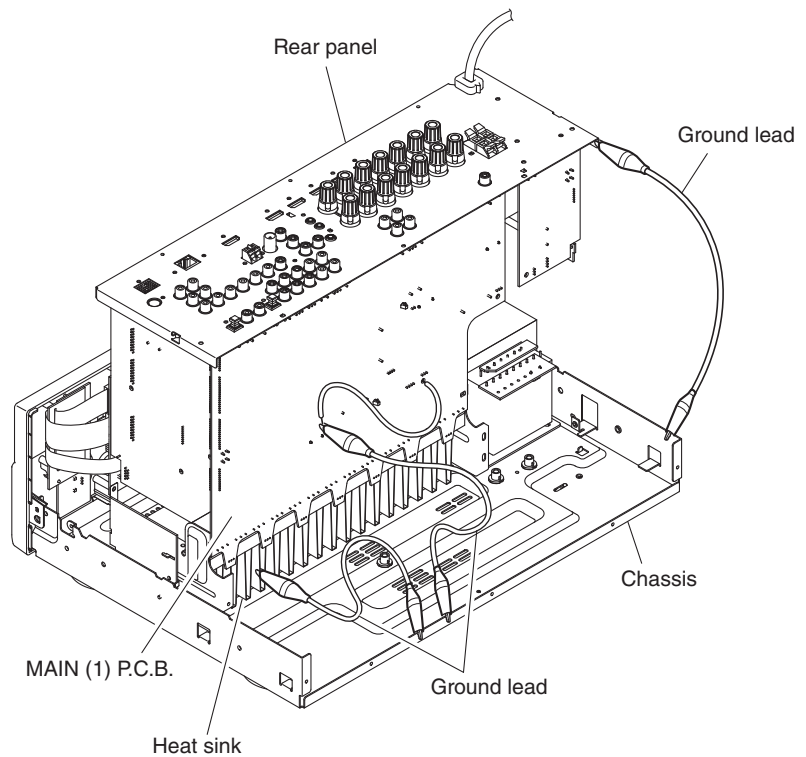

Fig. 5
- Follow the procedure below to place the P.C.B.s (with rear panel) upright. (Fig. 5)
- Connect the heatsink, rear panel and G101 on MAIN (1) P.C.B. to the chassis with a ground lead or the like. (Fig. 5)